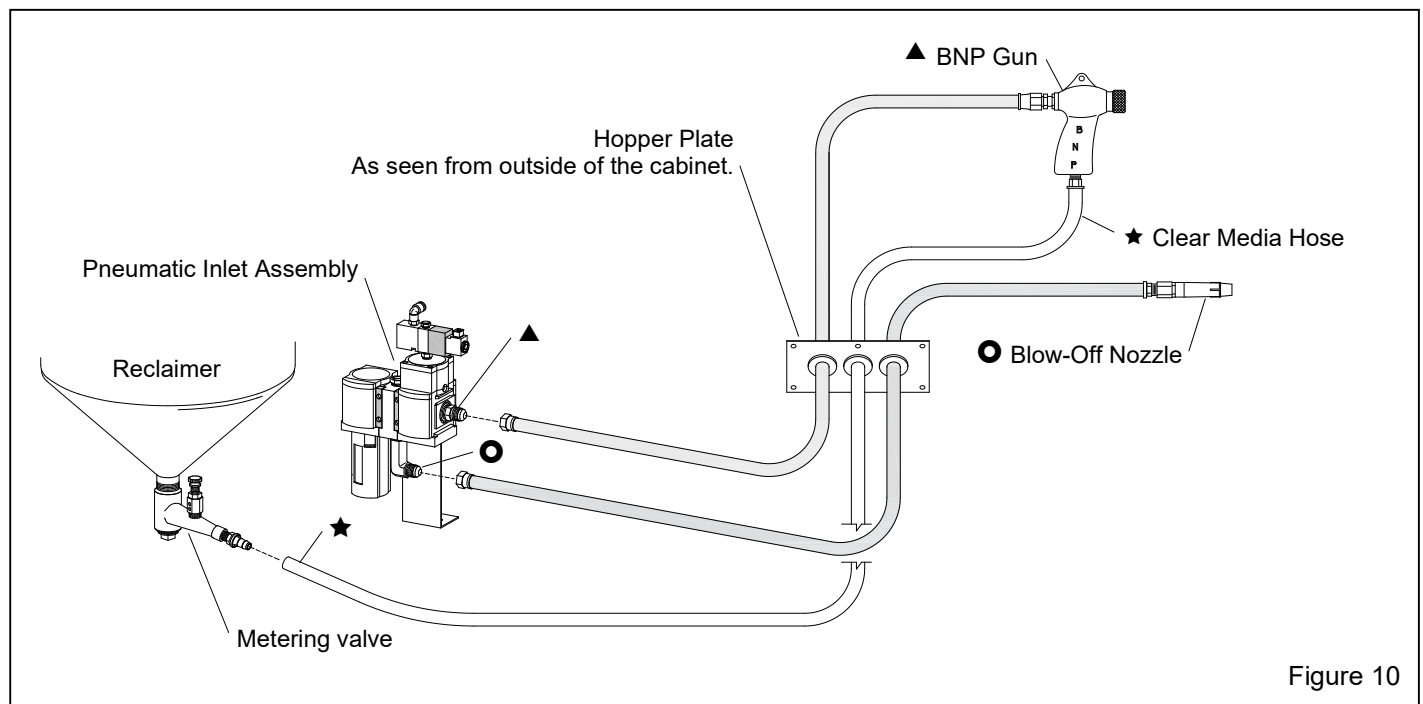

Figure 10
2.6 Connect Media Hose and Air Hoses – Figure 10
2.6.1 Refer to Figure 10 and attach the ★clear media hose from under the cabinet hopper to the metering valve at the bottom of the reclaimer hopper by pushing the hose onto the barded fitting.